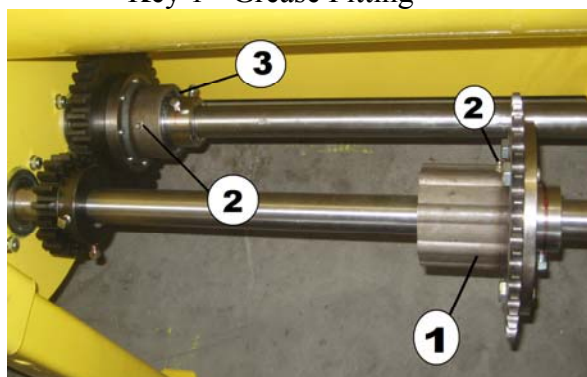

Figure 20. Greasing of Clutches
4. Main slip clutch has a grease fitting to be greased lightly every 100 hours. See Figure 20.